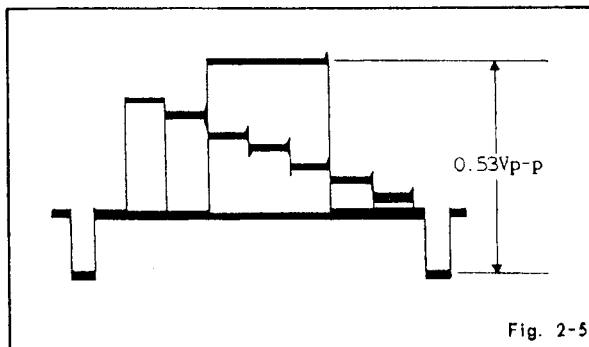

Fig. 2-5
3. Adjust VR4004 so that the waveform measures  $0.53 \pm 0.01V_{p-p}$ . (Refer to Fig. 2-5)